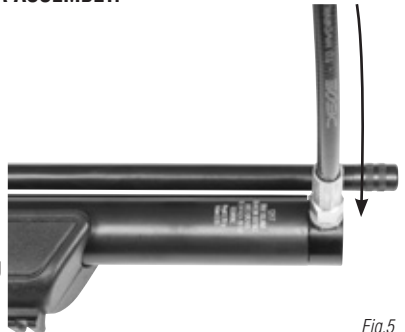

Fig.5
2. Fit the filler nozzle to the air-line of the charging equipment, which must incorporate a pressure gauge. Ensure both filler nozzle and rifle filler hole are clear from dirt and gently push the nozzle into the filler hole. (Fig.5)